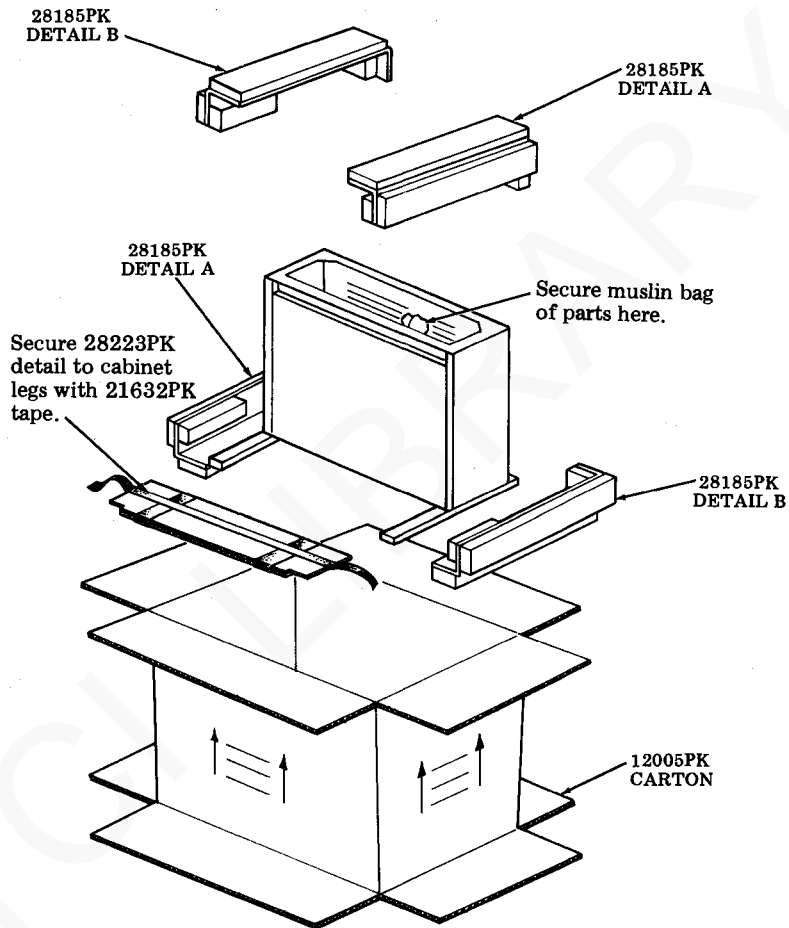

Fig. 37
- Step 3. Secure bag of parts in recess at upper right front corner of cabinet with a strip of 21632PK tape (see Fig. 37). Cover cabinet with a 23461PK plastic bag.
- Step 4. Form a 28223PK detail. Tape folds of detail together with two strips of 21719PK tape. Secure to cabinet legs with a strip of 21632PK tape. See Fig. 37.
- Step 5. Position a 28185PK Detail A on left leg and a 28185PK Detail B on right leg of pedestal. See Fig. 37.
- Step 6. Form details against sides and back of pedestal and secure in place with a strip of 21632PK tape. See Fig. 37.
- Step 8. Form a 28185PK Detail B and place it on left top corner of the cabinet. See Fig. 37.
- Step 9. Form a 28185PK Detail A and place it on right top corner of the cabinet. See Fig. 37.